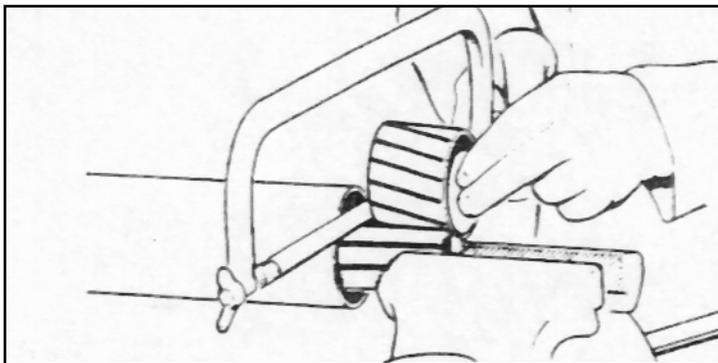

Figure 18 : cutting of the metal shaft
- Cut metal tubing with a hacksaw (figure 18)